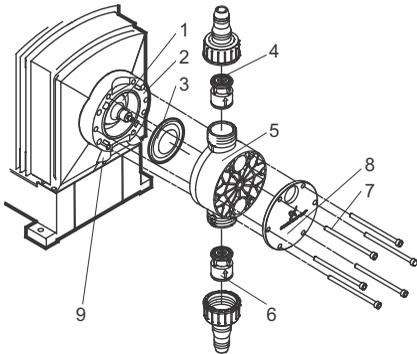

Fig. 15 Dosing head, exploded view (without deaeration valve)
This section refers to fig. 15.
If the diaphragm leaks or is broken, dosing liquid escapes from the drain opening (fig. 15, pos. 9) on the dosing head flange.
In case of diaphragm breakage, the safety diaphragm (fig. 15, pos. 1) protects the pump housing against ingress of dosing liquid.
When dosing crystallising liquids the drain opening can be blocked by crystallisation. If the pump is not taken out of operation immediately, a pressure can build up between the diaphragm (fig. 15, pos. 3) and the safety diaphragm in the flange (fig. 15, pos. 1). The pressure can press dosing liquid through the safety diaphragm into the pump housing.